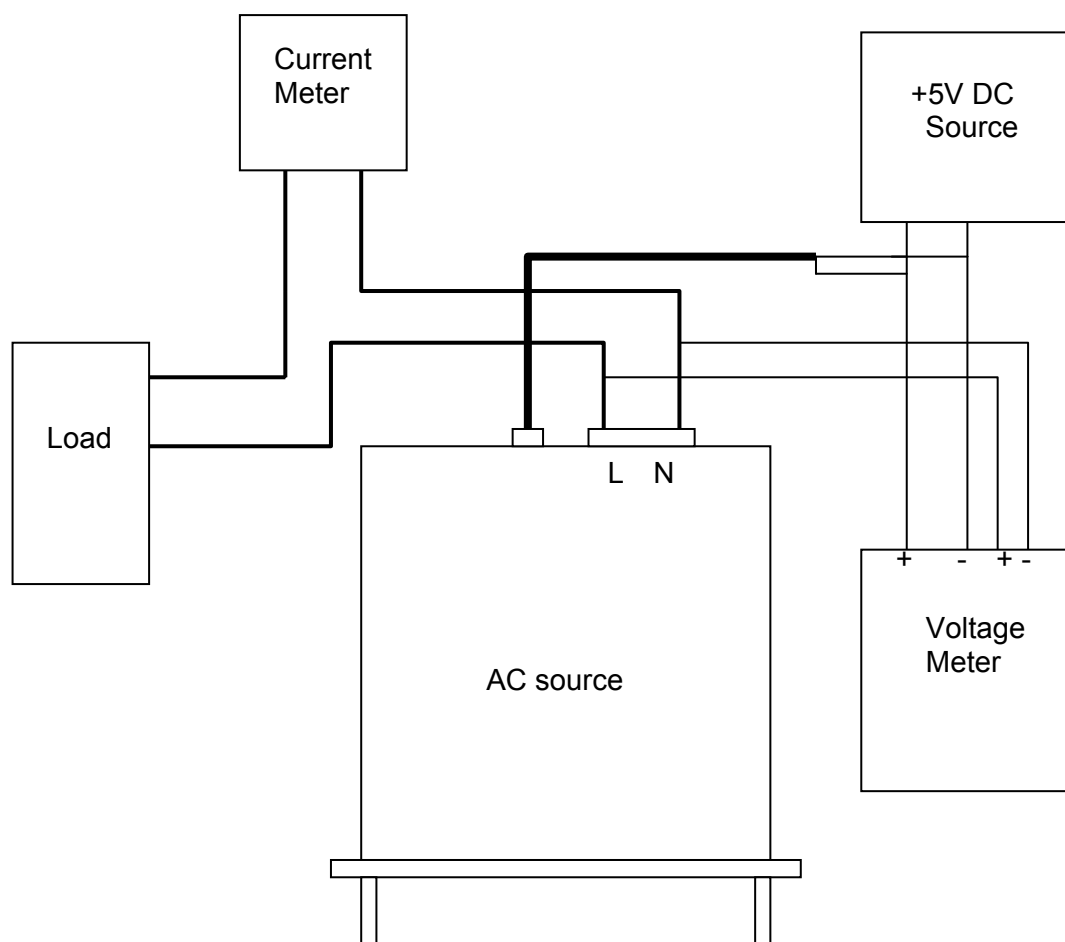

Figure 4-1
The ac source built a simple way to calibrate the output and measurement accuracy without opening cover. Users can do it just follow the procedures step by step. A voltage meter, current meter, suitable load and +5V dc source are needed for while calibration procedure. Connections for these instruments please refer to Figure 4-1. There are three items need to calibrate. But it is not necessary to calibrate all at once. User can just choose one item if needs.
1. The Vdc offset may be positive or negative. The positive of DVM connect to the Line of AC source output, and the negative of DVM connect to the Neutral of AC source output. See Figure 4-1.